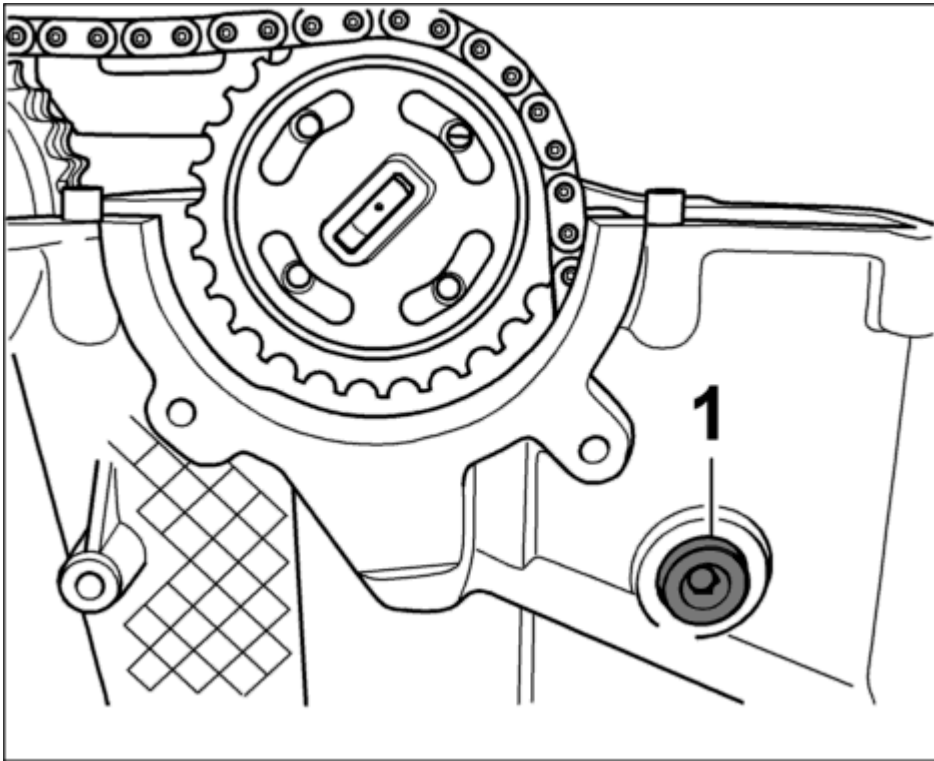

Fig. 173: Guide rail screw for cylinders 4-6
- The threaded bolt for guide rail 4-6 on the cylinder head (belt pulley side) -1- is removed even before the camshaft timing gears are removed. See **Fig. 173**.